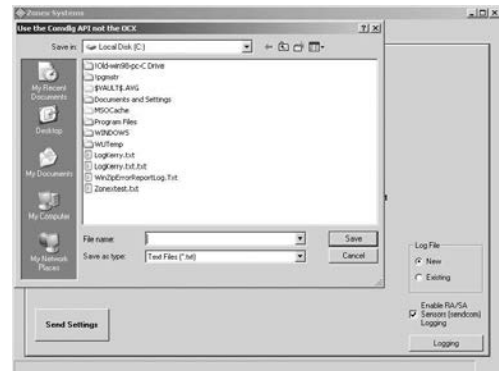

Fig. 30
5. The program must be named and then saved onto your C drive (see Fig. 30). For example, we saved a file named **Log Zones in C:\Program Files\Zonex Systems**.